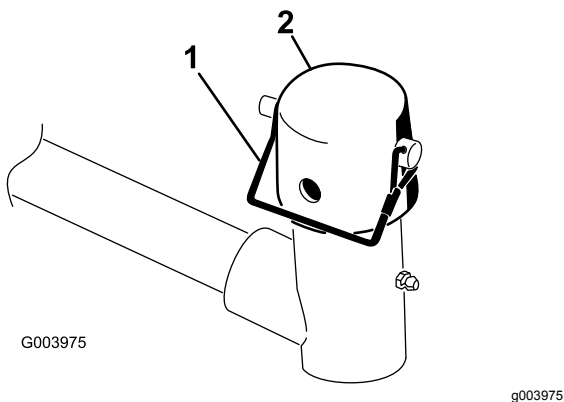

Figure 10
7. Remove the lynch pin from the lift-arm pivot yoke. Then, remove the cap (Figure 10).
11. Secure the cap and the carrier-frame shaft to the lift-arm yoke with the snapper pin (Figure 10).